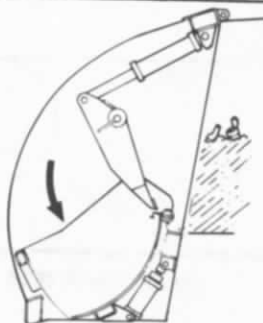

Figure 7. Normal Packing Cycle
- a. Press START pushbutton. This will raise the hopper to its full up position and simultaneously move the packer blade back and upward. See figure 7.